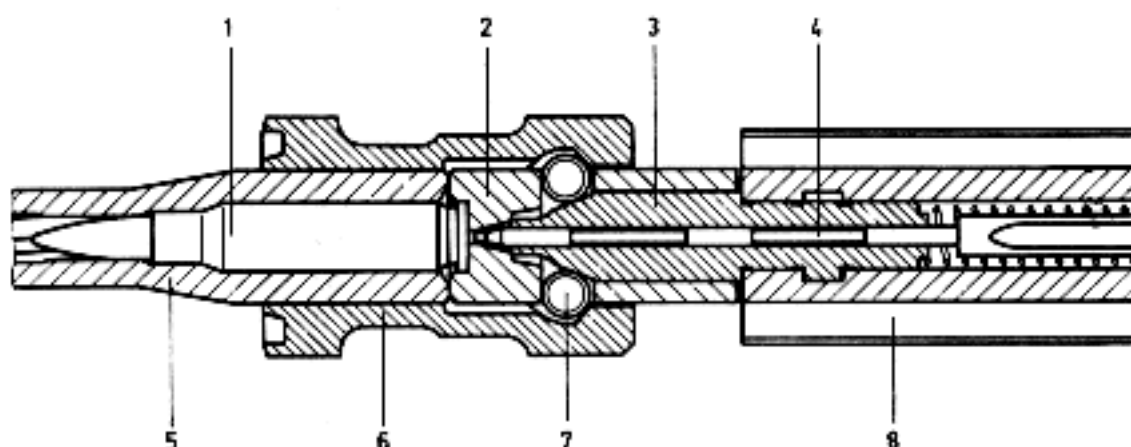

Fig. 38: Bolt in locked position
1.5.2.1. Bolt (Fig. 38, 39 and 40)